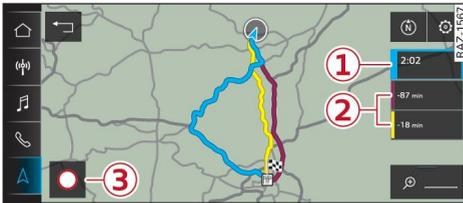

Fig. 124 Alternative routes in the overview map
- ▶ **To exclude a route:** Press  ⇒ *Fig. 124*.
- ▶ Press and hold the information window for the corresponding alternative route (e.g. ) ⇒ *Fig. 124*.